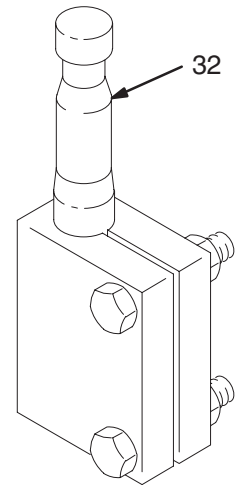

Fig. 13
13. Remove the screws (28) and lockwashers (2) from the piston plate (27). Loosen the piston nut (16). Use Tool Kit 220385 to remove the piston shaft (32) and piston nut (16). See Fig. 13. Remove the piston nut from the shaft. Remove the plate (27) and the seal (45) from the piston (24).
14. Inspect the piston shaft (32). If it is damaged or the surface is scored, replace it.
17. Install the piston plate (27) with the beveled edge facing away from the piston seal. Apply medium strength liquid thread adhesive lightly to the piston screws (28) and install two of the screws and lockwashers (2).
- 5 Apply anti-seize lubricant 222955 to the threads of the shaft (32) and piston (24).